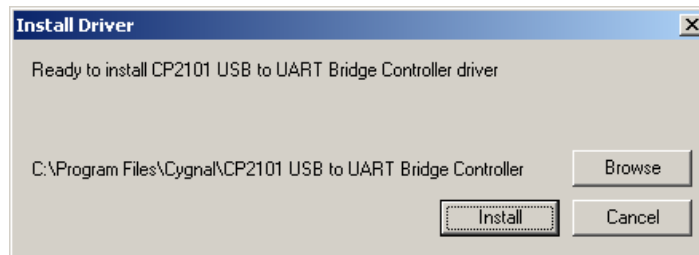

Figure 8: CP2101 USB Driver Installation Dialog
2. The screen in Figure 8 will be displayed. Select the destination path by clicking the **Browse** button and navigating to the desired target directory. By default the **C:\Program Files\Cygnal\CP2101 USB to UART Bridge Controller** is selected, this guide will use the default path. Once the target path has been selected, click the **Install** button.